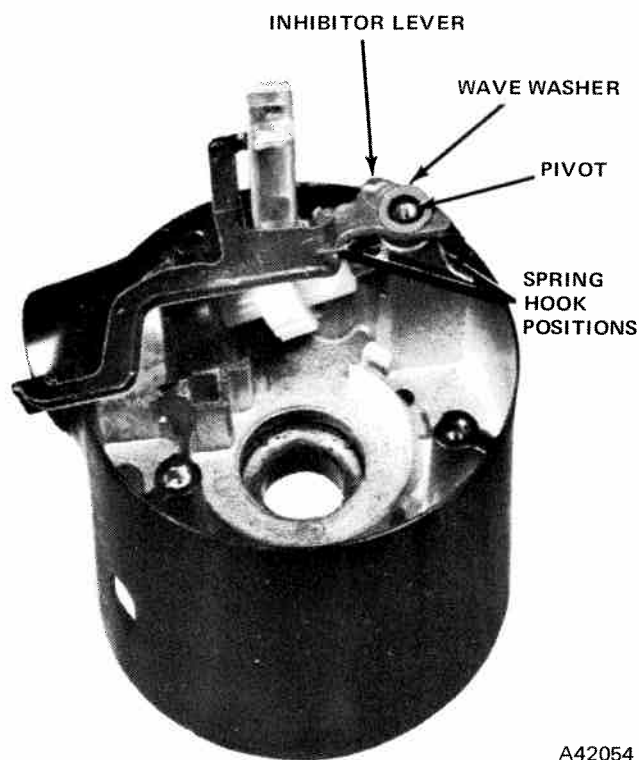

Fig. 11-16 Inhibitor Lever Arrangement
(31) Place a rag over inhibitor lever pivot (to prevent lever spring from flying into face) and carefully remove inhibitor lever (fig. 11-16).
(32) Remove spring.